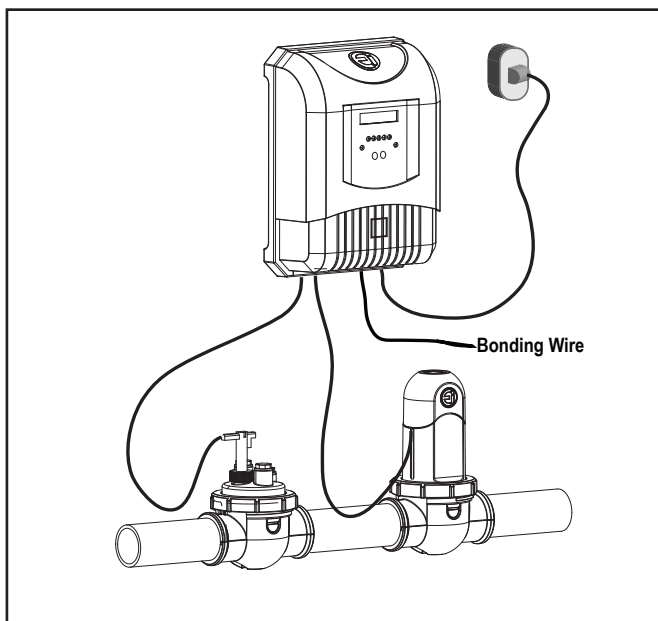

Figure 5. Power Pack Installed
12. Plug the power pack into the electrical outlet. Turn the power pack on (see Figure 5).